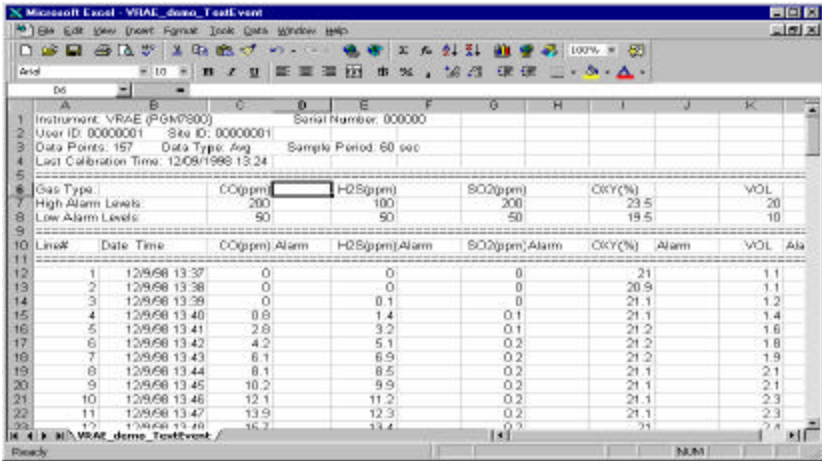

Figure 33. File TextEvent.txt is Open
- Click **Finish**, the dialog box disappears and the event data are loaded into the MS-Excel software, as shown in Figure 33.